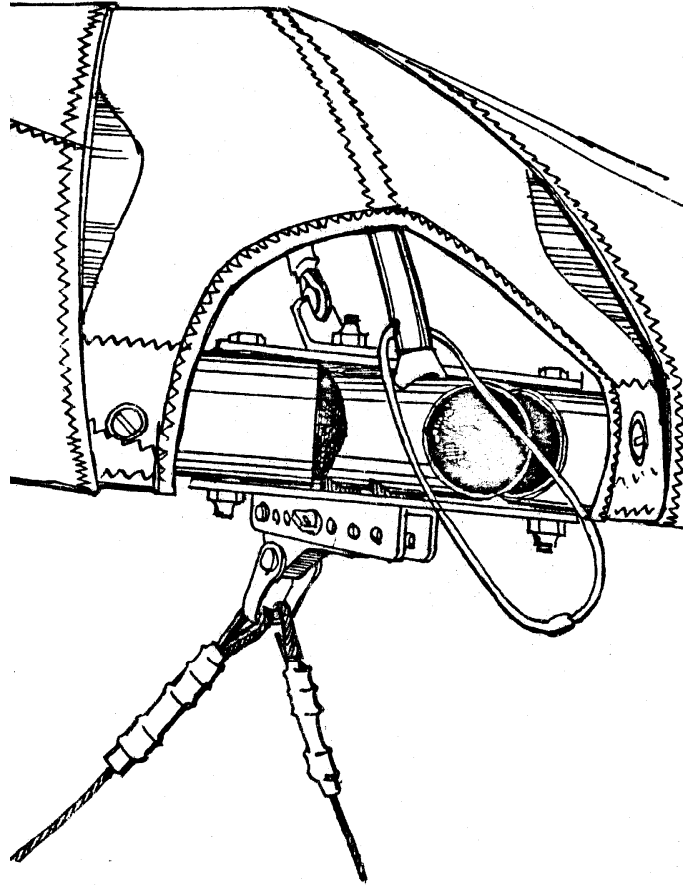

Fig.26
3.1. Do a complete preflight inspection of the glider. It is your responsibility during this "preflight" to check every part, component and assembly on the glider. Beginning at the nose, check all selflocking nuts, the clevis pin and the safety ring which secure the lock of the bottom front wires (Fig.26/27).